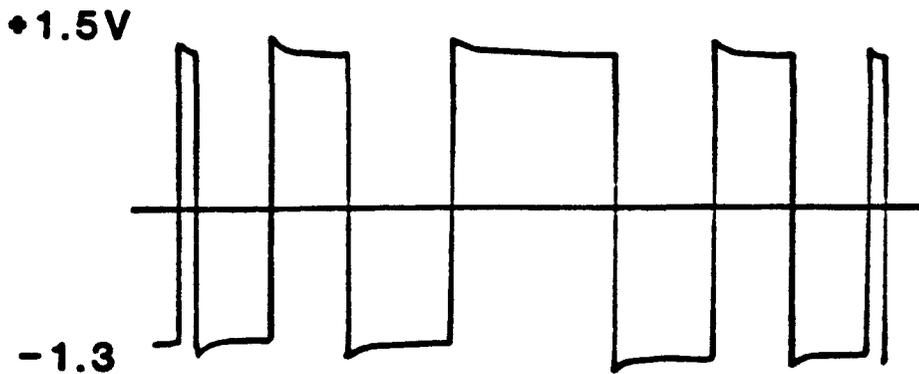

FIGURE 20 - BASE PULSE
2. Run the inverter and check base pulses with an oscilloscope. The ground lead of the scope should be connected to the emitter and the probe on the base. Connectors CN-3 to 8 provide access for measurement. Check all six base amplifier voltages. Figure 20 shows normal levels for proper operation.